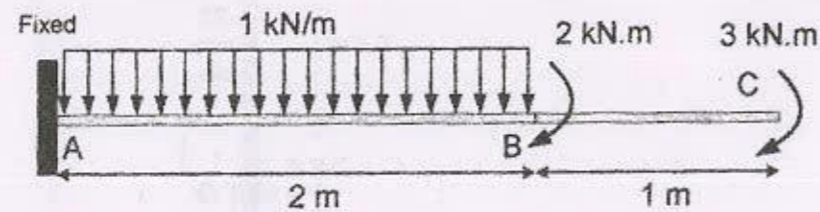

Fig. 3
- 24) a) State the conjugate beam theorems with neat diagrams and draw the conjugate beams for the beams shown in the fig.3. [6]
b) Draw Shear Force Diagram (SFD) and Bending Moment Diagram (BMD) for a cantilever beam ABC of length 3 m, fixed at A and free at C as shown in Fig. 3. AB (2 m) portion is loaded with uniformly distributed load of 1 kN/m, two moments are applied at B and C with magnitude 2 kN.m and 3 kN.m respectively. [13]